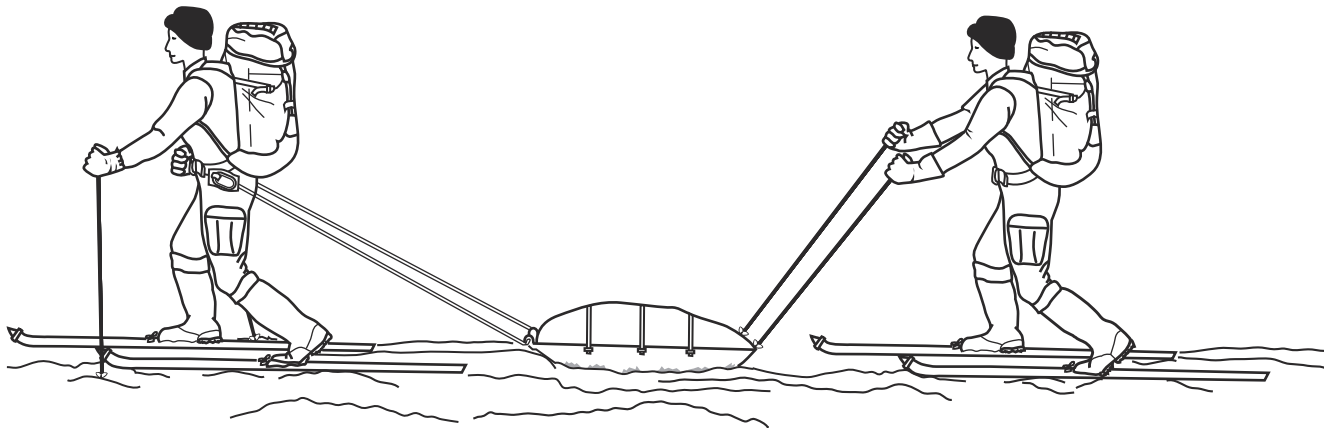

Figure 8-3. Assisting the Sled Puller.
- One team member can assist the sled puller by pushing the sled from the rear with his poles, as shown in figure 8-3.